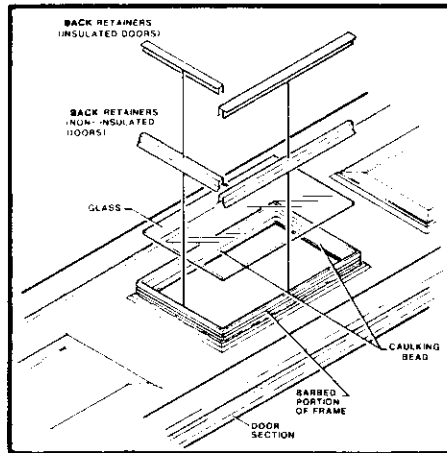

FIGURE 3
4. Insert Decorative Trim (if required), then glass (12-1/8" x 18" or 10-1/8" x 41" for Double Wide Embossment) into Frame. See Figure 3.
5. Firmly press Back Retainers onto barbed parts of Window Frame. See Figure 3.